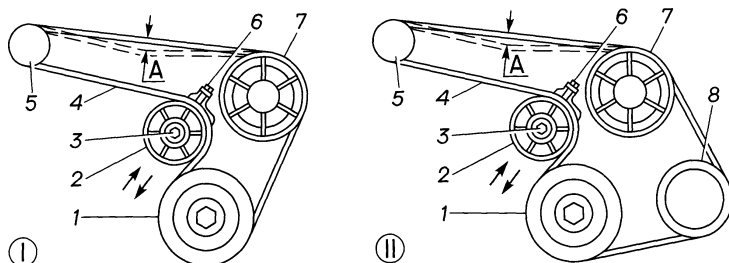

Fig. 9.8. Accessories Drive Belt Tension Diagram:
**ZMZ – 4061, 4063, 40522 Engines.** Engine accessories drive belt tensioning is carried out by changing the position of idler pulley 2 (Fig. 9.8).